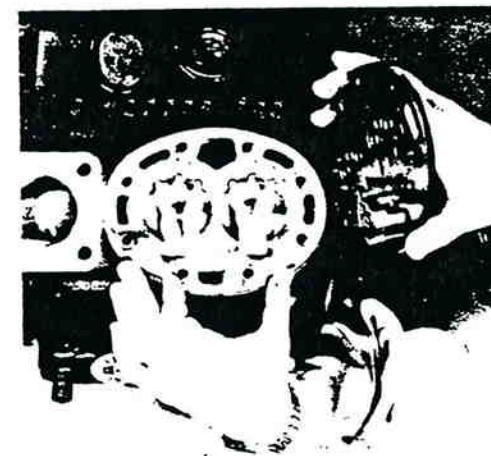

Figure 16-44: Installing Valve Plate and Gasket
25. Place valve plate and new valve plate gasket on cylinder deck, ensuring that the valve plate is properly positioned on the four dowel pins (the top head has five dowel pins)(figure 16-44).